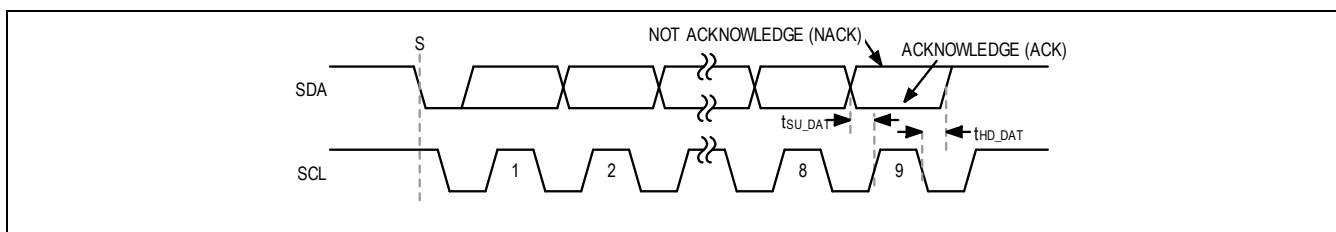

Figure 33. Acknowledge Bit
Both the I2C bus master and slave devices generate acknowledge bits when receiving data. The acknowledge bit is the last bit of each ninth-bit data packet. To generate an acknowledge (A), the receiving device must pull SDA low before the rising edge of the acknowledge-related clock pulse (ninth pulse) and keep it low during the high period of the clock pulse. See Figure 33. To generate a not-acknowledge (nA), the receiving device allows SDA to be pulled high before the rising edge of the acknowledge-related clock pulse and leaves it high during the high period of the clock pulse.